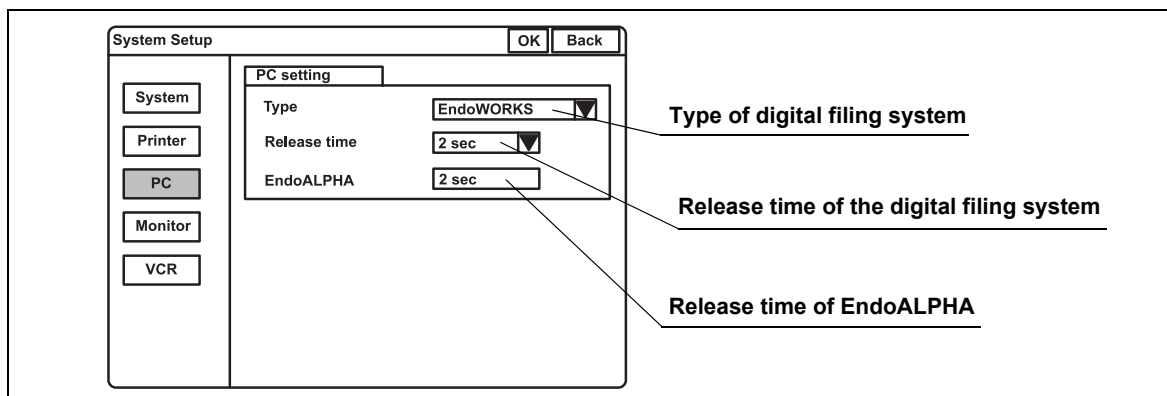

Figure 9.8
Click “PC” on the system setup menu. The setting items appear on the right side of the window (see Figure 9.8).
1. Click “▼” of the “Release time (see Figure 9.8). The release times appear in the pull-down menu.